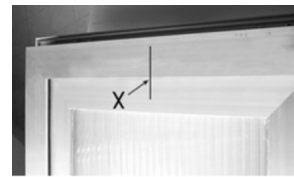

Figure 7
- B. Mark the centre line "X" of the frame with a pencil (Fig. 7) or divide it equally if fitting several Syncro³.